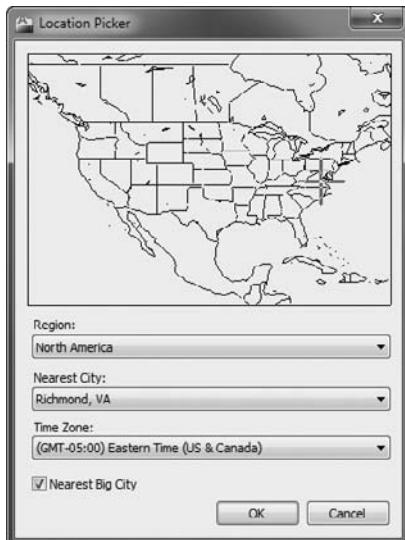

FIGURE 17.15 The Location Picker dialog box
8. Click the Use Map button in the top-right corner of the dialog box to open the Location Picker dialog box, as shown in Figure 17.15.
A red cross appears over Richmond (or wherever you've chosen) in the map. The Time Zone drop-down list displays the accurate time zone based on the location you selected (see Figure 17.15).